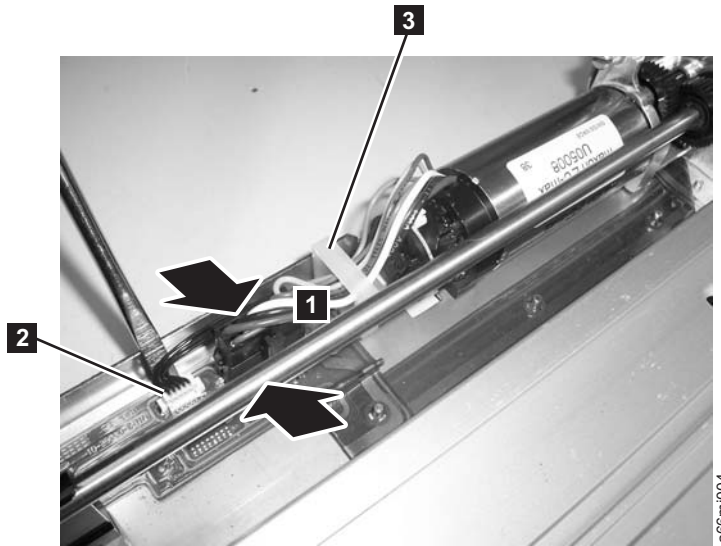

Figure 8-52. Y motor connector
5. See Figure 8-52 on page 8-56. Remove the large black connector.
- a. Pinch the latch (**1** in Figure 8-52 on page 8-56) on the cable connector.
6. Use a small flat blade screw driver to pry up the small white connector (**2** in Figure 8-52) gently working the screw driver blade along the entire outside edge of the connector.